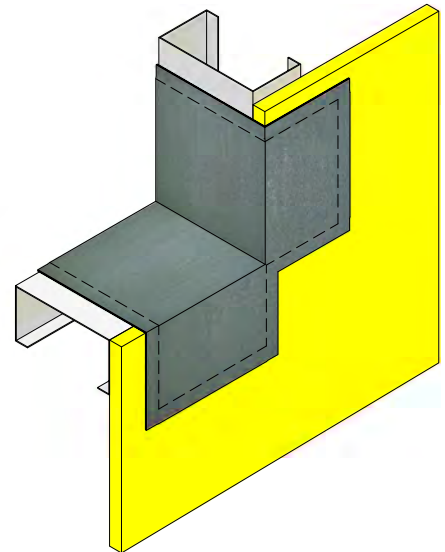

Figure 7
3. Apply additional ACROSTOP-R onto the SHEATHING FABRIC to completely saturate and embed. Verify SHEATHING FABRIC is smooth, free of wrinkles and voids. (See Figure 7)